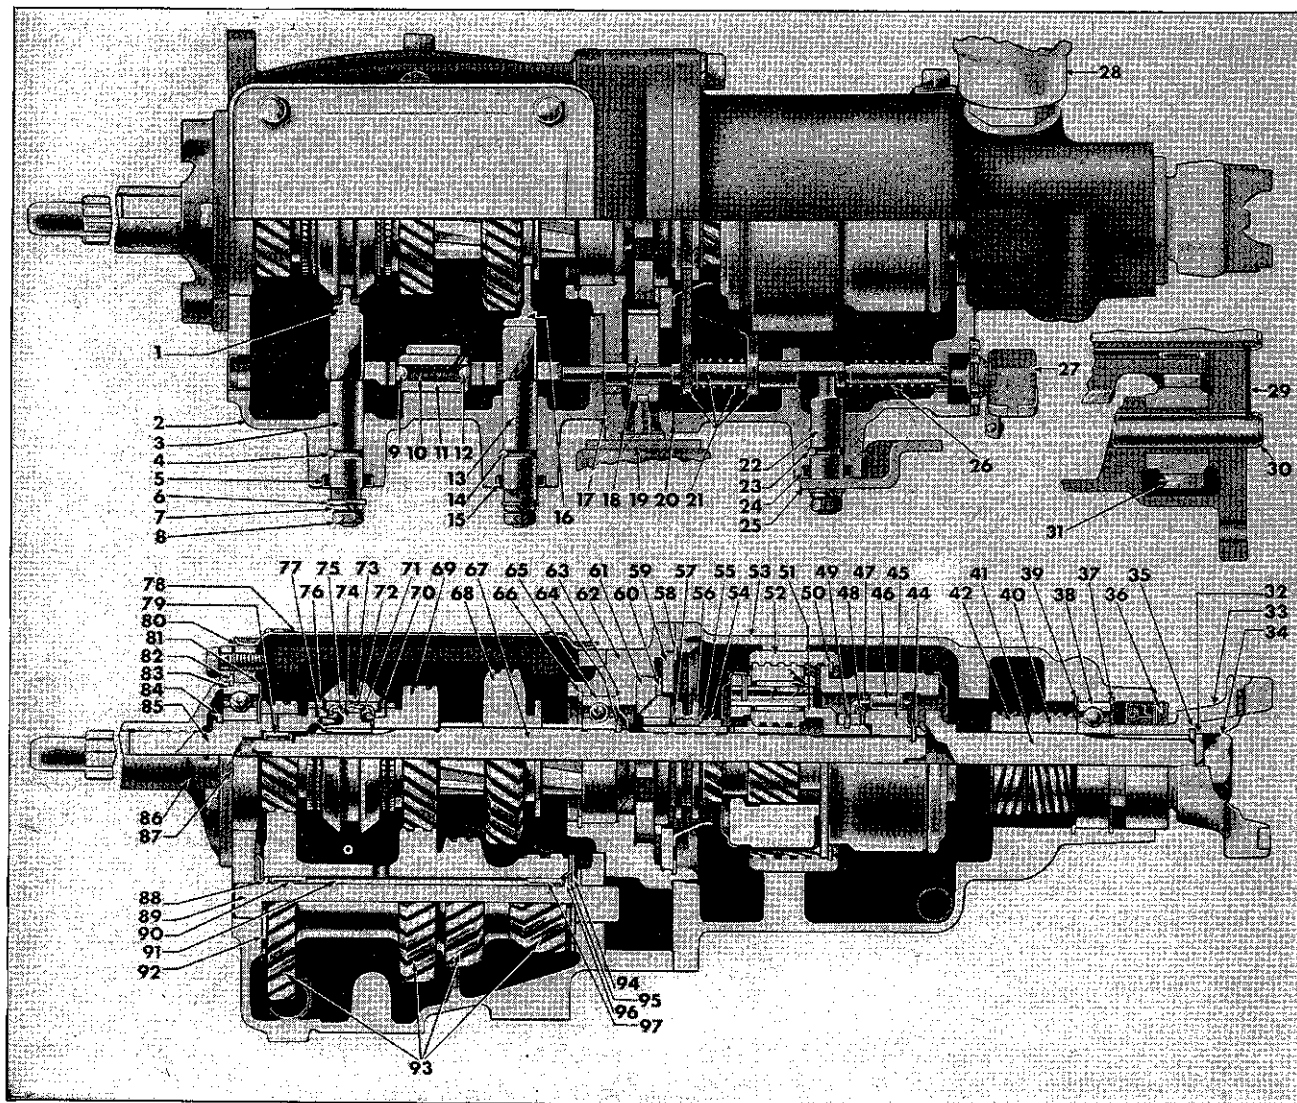

FIG. 218—TRANSMISSION AND OVERDRIVE — F4-134 MODELS
**q.** Remove the shift rail and fork (51) and the sun gear (15) by pulling both to the rear.
**r.** Remove the snap ring (12) from the housing adapter.
**s.** Remove the cover plate (11) bulk ring and gear plate (10) and stationary gear pawl (Fig. 218, No. 18). The bulk ring is a slip fit on the gear plate and can be removed by pulling the ring from the plate hub.